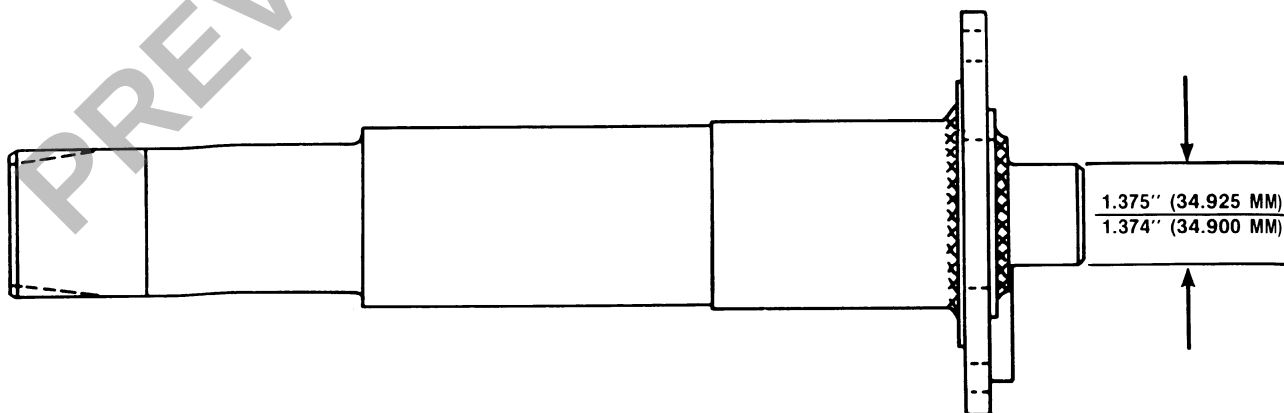

FIGURE 5B-12
1. Check the PTO shaft pilot dimension. The pilot should be 1.374" to 1.375" (34.925 to 34.900 mm) as shown in Figure 5B-12. If the PTO shaft pilot does not meet the specifications, it should be replaced.